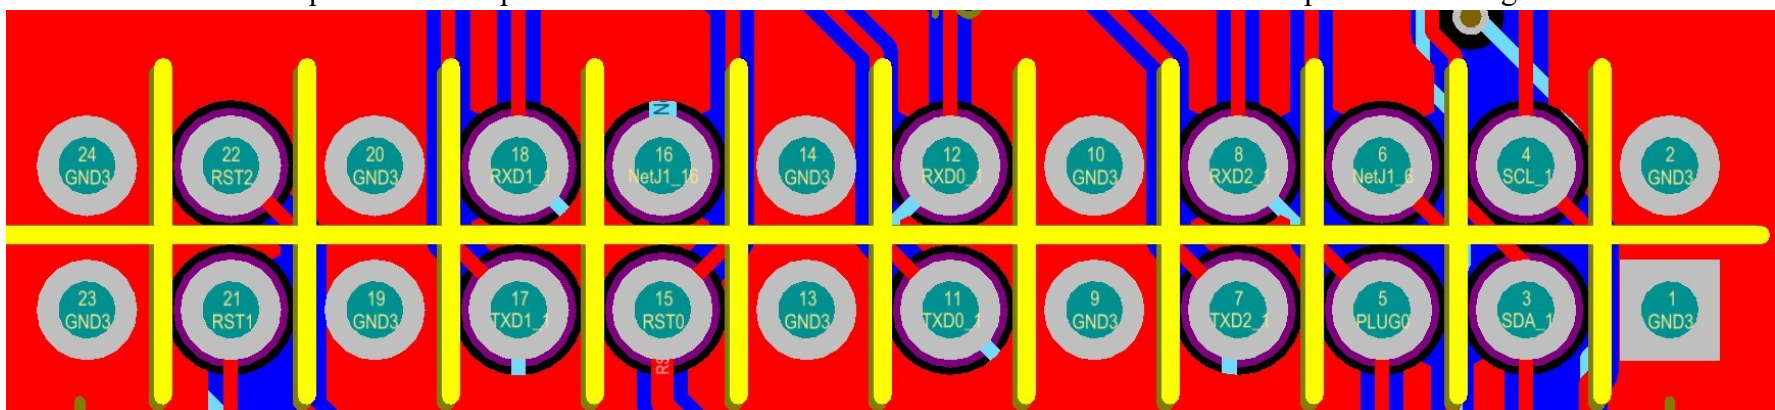

Fig 11. Each Pin Definition of IO Mouth
3. IO Mouth: IO is composed of 2×12 pitch 2.0 PHSD 90° in-line double row. The definition of each pin as below Fig 11: